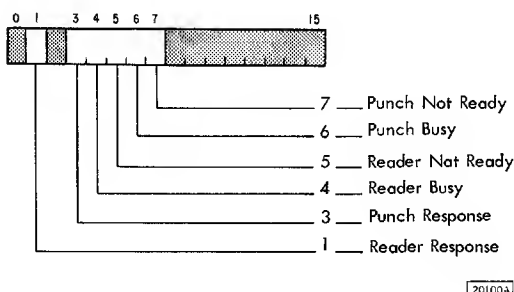

Figure 3-2. Device Status Word (1134/1055)
Figure 3-2 shows the DSW that is set in the accumulator for the paper tape (PT) devices. Either the punch response or the reader response shown causes an interrupt request to the CPU.